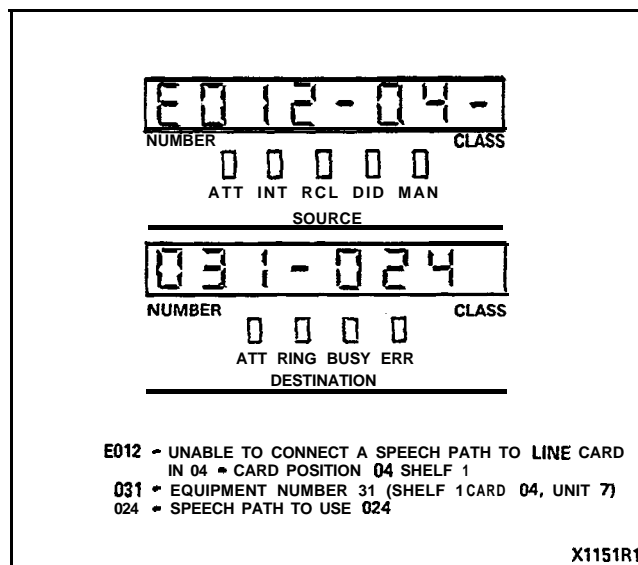

Figure 3-2 Typical Readout
3.04 A typical alarm readout in the SOURCE display is shown in Figure 3-2. In addition, if the ALARM RESET button is pressed, the Busy Lamp Field changes to display lines and trunks which are locked out or have been busied-out. This display remains for as long as the ALARM RESET button is held down.
3.06 Table 4-4 is a list of error codes displayed on the console indicating the card causing the malfunction and the type malfunction. Figure 3-2 shows a typical error display and its interpretation.